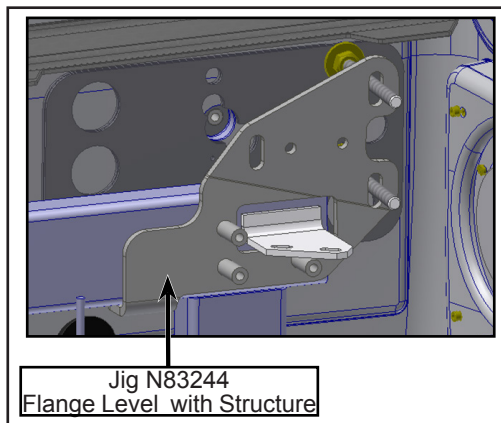

Figure 13 - Location of Interior Jig
- 1.14. Insert interior jig N83244 (see Figure 13).